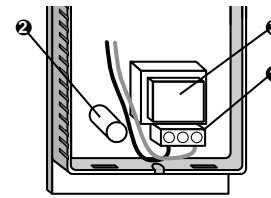

Fig 2
Pull off the terminal block ❶ (Fig 2) from the pins on the board. Connect the two supply wires to the terminals and replace the block on the pins.